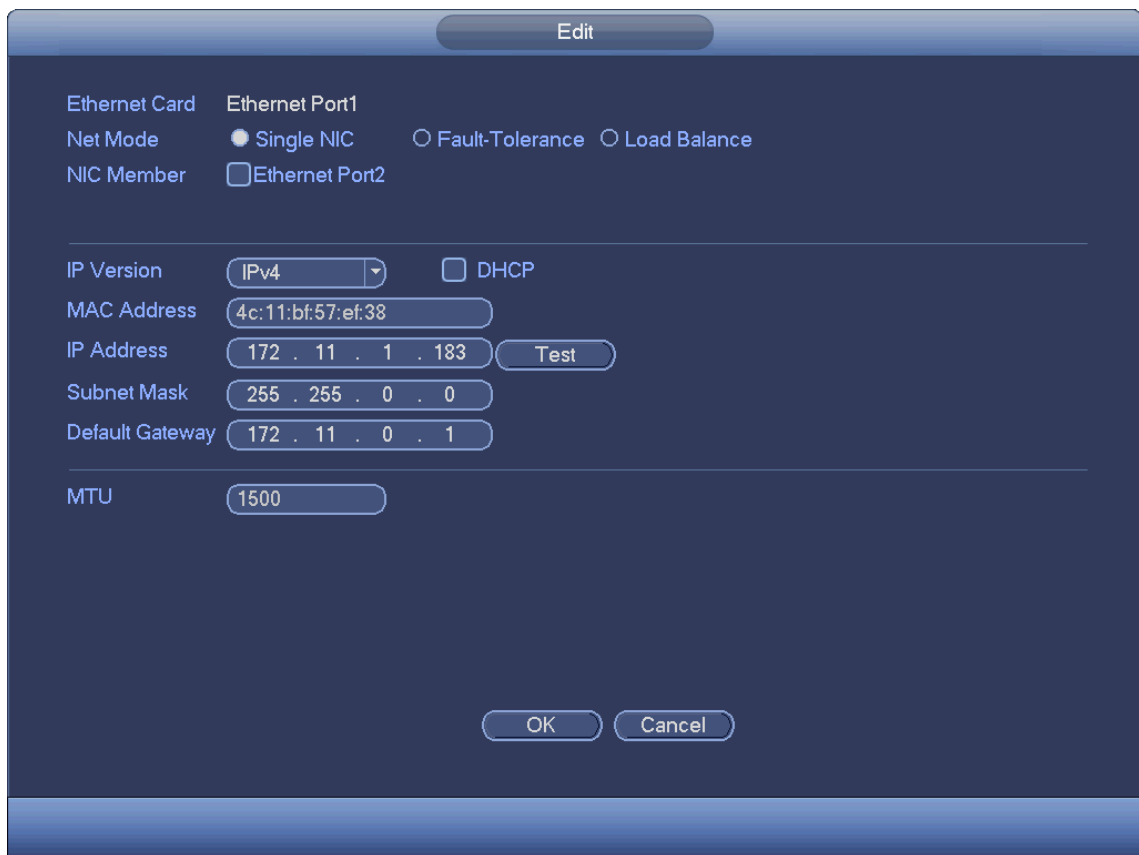

Figure 3-18
Step 2 Click , device display edit interface. See Figure 3-18.